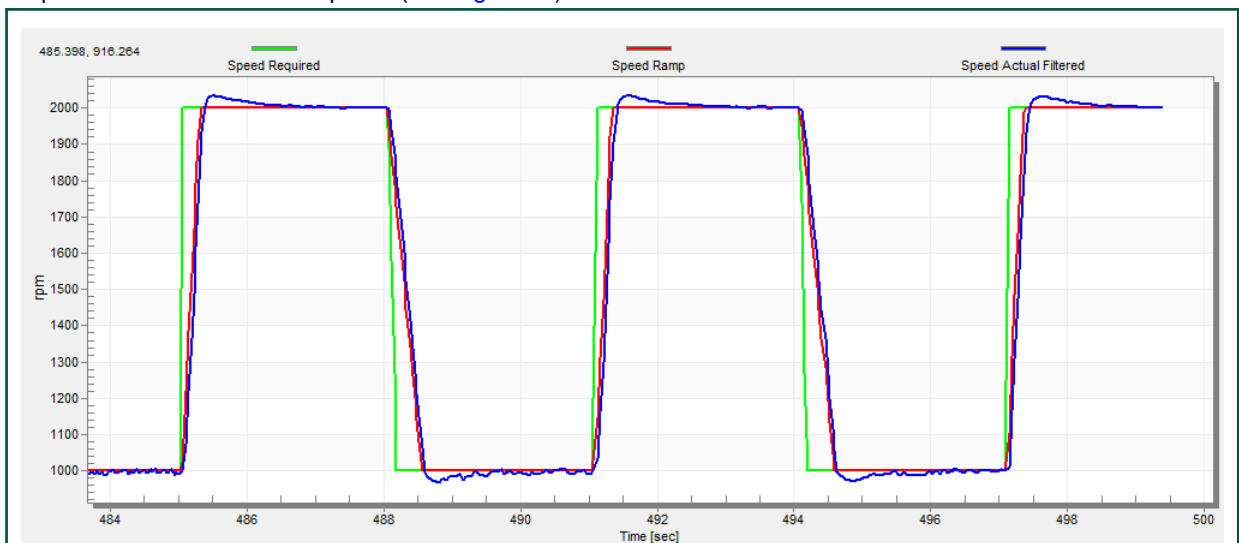

Figure 36. Speed controller response—speed loop response with a small overshoot
- The speed loop response has a small overshoot and the “Speed Actual Filtered” settling time is sufficient. Such response can be considered optimal (see Figure 36).